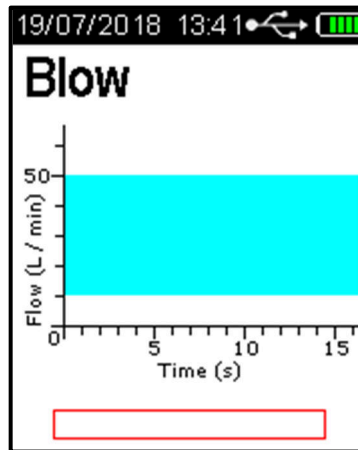

Figure 8 - Blow is displayed when the device is ready
- *Blow* will be displayed when the device is ready (Refer to Figure 8).